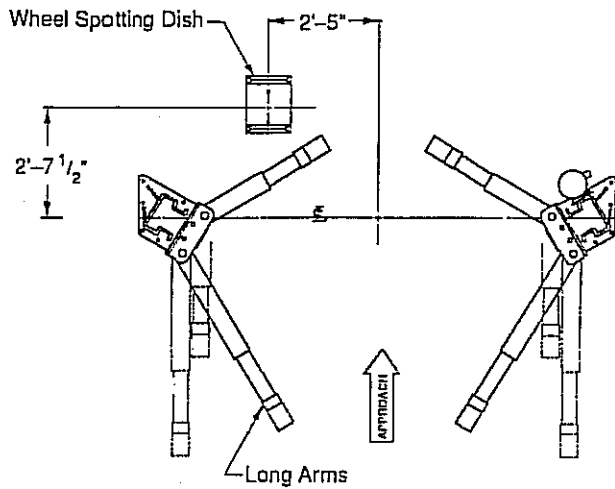

Fig. 17
16. **Wheel Spotting Dish:** Position wheel spotting dish as illustrated in Fig. 17. Drill (2) $\frac{3}{8}$ " holes $2\frac{1}{2}$ " deep in concrete floor using holes in wheel spotting dish as guide. Drive both anchors, provided, into concrete to secure dish.